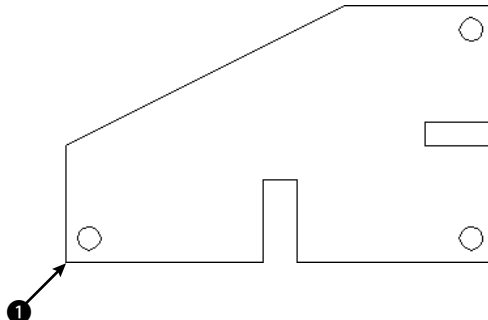
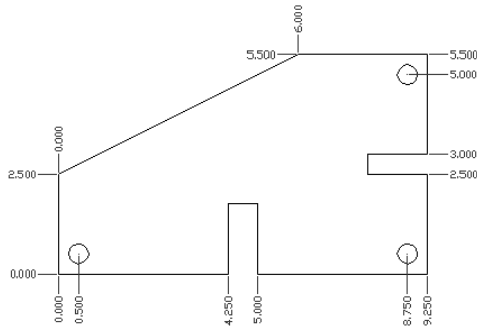

Figure 14-21: A sheet-metal template.
Figure 14-22: The dimensioned template.
2. Save the file as **ab14-05.dwg** in your **AutoCAD Bible** folder. This drawing shows a simple sheet-metal template, as shown in Figure 14-21. Snap should be on. Set a snap distance of 0.25 units. Right-click the **SNAP** button on the status bar and make sure that grid snap is on. If the **Dimension** toolbar isn't visible, right-click any toolbar and check **Dimension**.
3. Choose Tools ⇨ Move UCS. At the Origin point <0,0,0>: prompt, pick ❶ in Figure 14-21.
4.  Choose Ordinate Dimension from the Dimension toolbar. At the Specify feature location: prompt, choose ❶ in Figure 14-21. At the Specify leader endpoint or [Xdatum/Ydatum/Mtext/Text/Angle]: prompt, pick a point 0.5 units to the left of ❶, as shown in Figure 14-22. (Because Snap is on, this is easy. If necessary, press F6 until you get polar coordinates to display in the lower-left area of the drawing screen.)
5. Repeat the DIMORDINATE command. At the Specify feature location: prompt, choose ❶ in Figure 14-21. At the Specify leader endpoint or [Xdatum/Ydatum/Mtext/Text/Angle]: prompt, pick a point 0.5 units below ❶.
6. Continue to dimension the drawing, using Figure 14-22 as a guide.